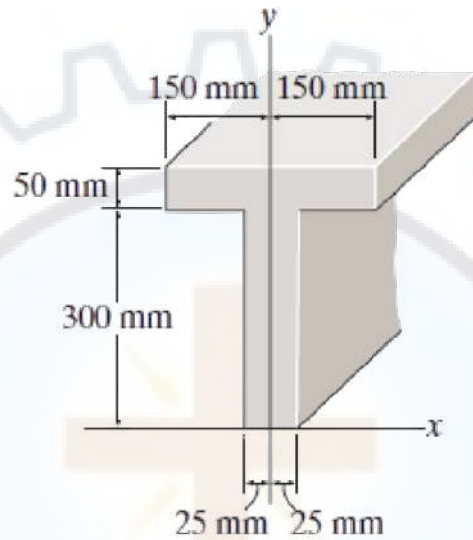

Figure 8
1. Locate the centroid y of the T-beam shown in Figure 8.